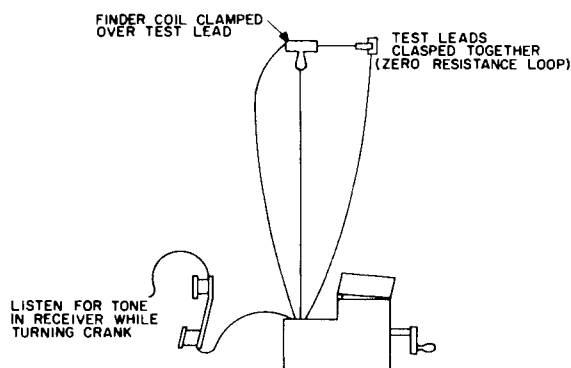

Figure 7. Test for maximum tone.
- Snap the test clips together and attach the finder coil around one of the test leads (figure 7).